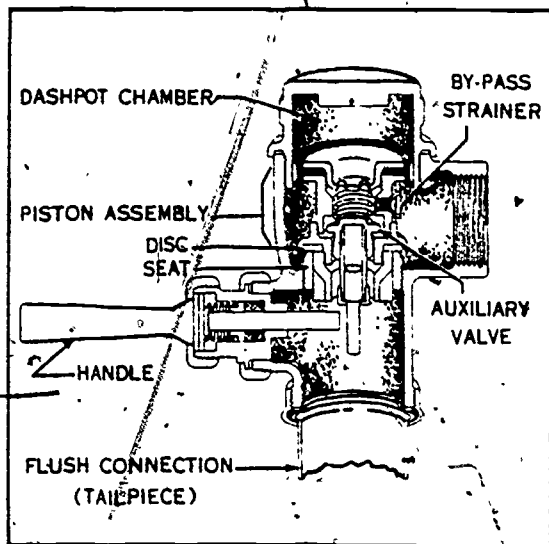

Figure 1-47. Cross section of a piston type flushometer valve.
a. Piston type flushometer valve. The piston type flushometer valve, of which a cross section is shown in figure 1-47, is opened by a lever which discharges the